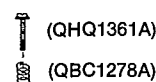

Fig. 2
- Please replace both azimuth adjustment screws (QHQ1361A) and springs (QBC1278A) used for to new ones simultaneously when readjusting the head azimuth. (Shown in Fig. 2.) Even if you wish to readjust the head azimuth without replacing the screws and springs, a fine adjustment can not be done because of the screw-locking bond adhered to the azimuth screw and spring.